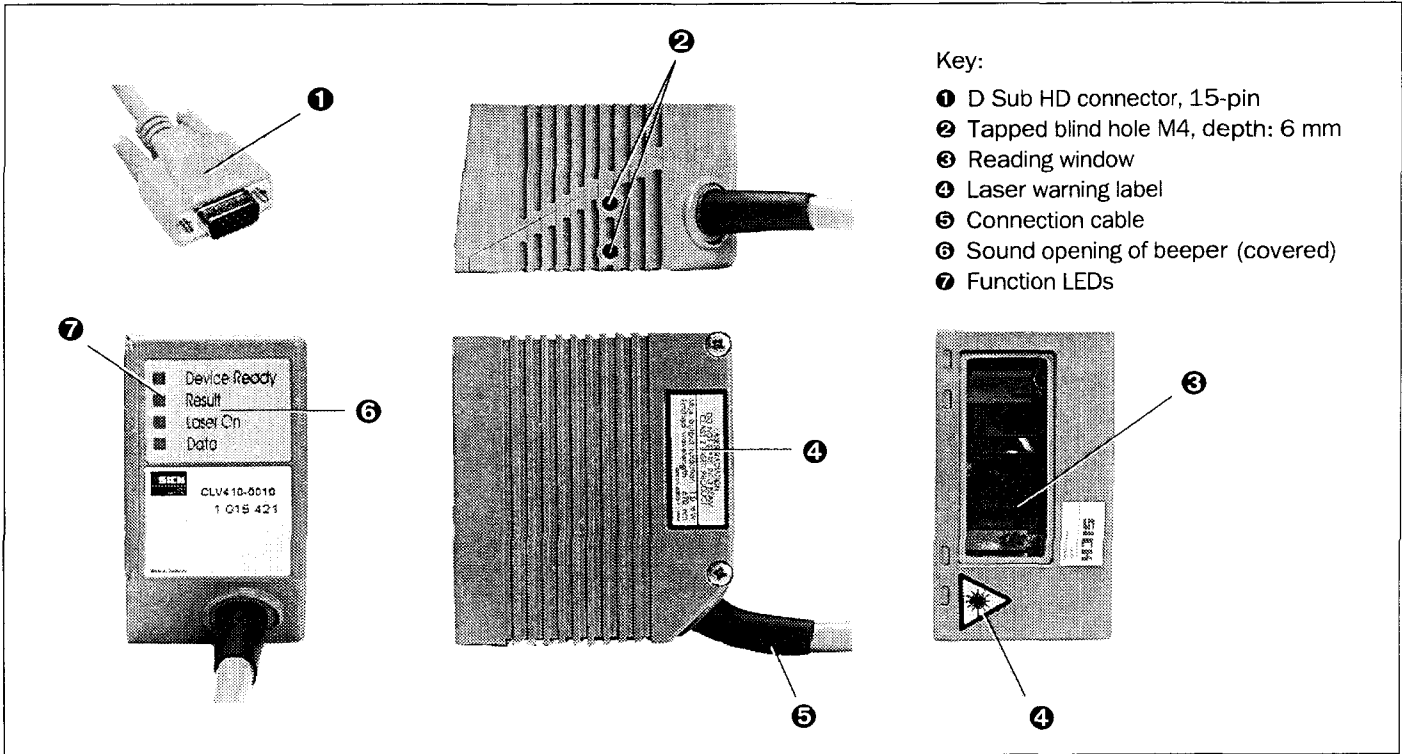

Fig. 1. CLV 410 design
The beeper ❹ either provides an acoustic confirmation that a function was executed successfully or indicates a malfunction. The sound opening is located below the LED label on the rear, narrow side of the device (Fig. 1).
The LED function indicators ⑦ are located on the rear, narrow side of the device (Fig. 1).